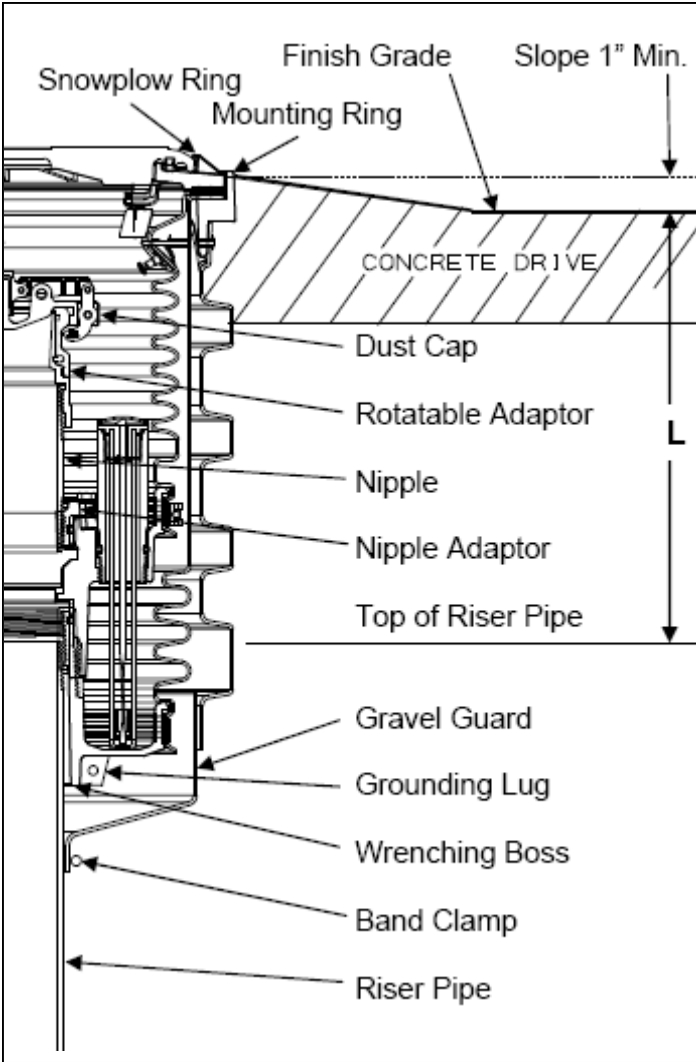

Figure 2
Step 5: (See Figure 2)
Step 6: (See Figures 2 & 3)
Step 10: (See Figure 2)
Install gravel guard at final height as shown in Figure 2 and tighten band clamp to 30 in-lbs. Where applicable, per California SB-989, all metal must be protected from
Step 11: (See Figures 2 & 5)